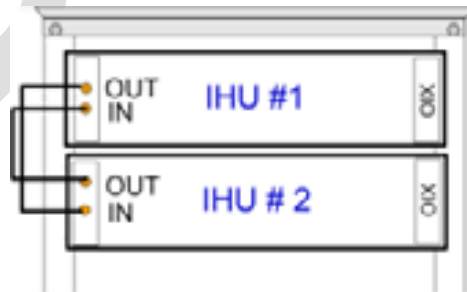

Figure 5-53. Example of Pilot Clock Connections between Two IHU Units
- The REF IN and REF OUT pilot clock ports must be connected in a closed loop as shown in Figure 5-53.
Referring to Figure 5-53 use the QMA/QMA jumper cable (PCKC47 provided with each RIX) to connect the **REF OUT** and **REF IN** ports of each of the RIX modules in the HEU chassis.